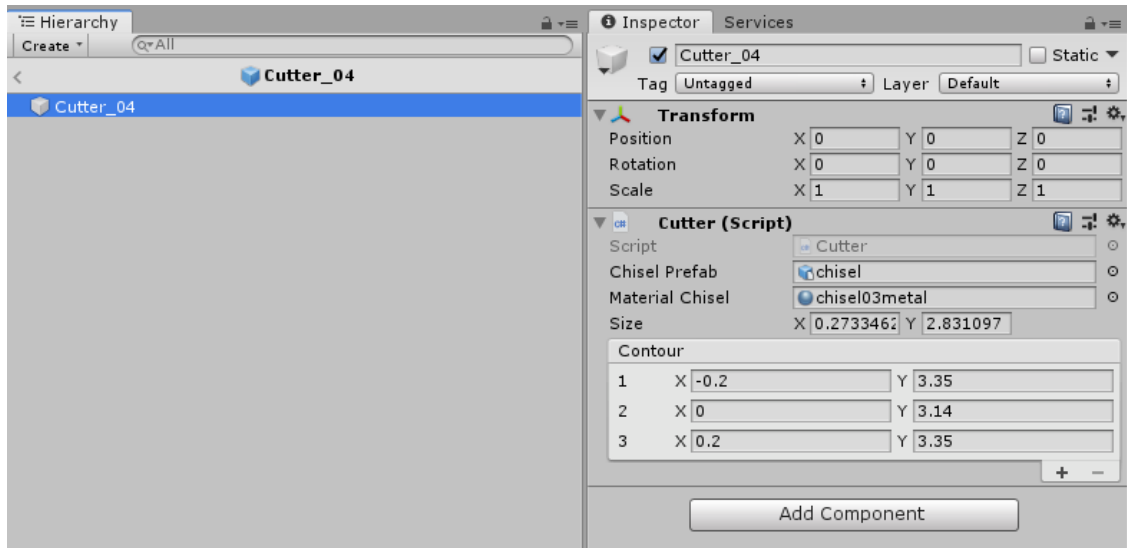
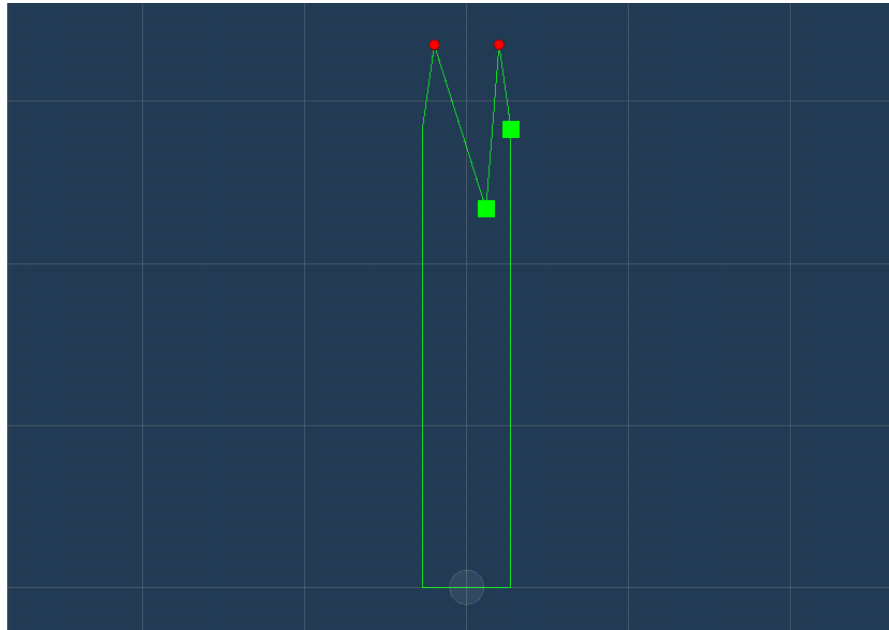

Figure 3
Figure 5
In order to create a new chisel, you need to create an empty object on the stage and add the “Cutter” script on it (Figure 3). The script has parameters:
4. Contour – the contour along which the cutting part of the chisel will be formed (figure 5).
In order to change the contour of the tip, you can add a point by clicking on “+” in “Contour” (Figure 3), or delete an unnecessary point by selecting it in “Contour” and pressing “-” (Figure 3). You can change the position of the points of this contour in the Scene window, click on the red circle, it will turn into a green square (this means that the point is selected), then click on the green square with the mouse and drag it thereby changing the position of this point (figure 5).